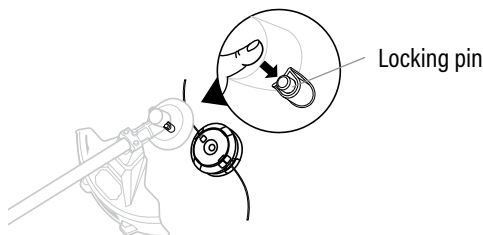

Fig. 9
2. Press the locking pin and turn the cartridge counterclockwise to remove it. (Fig. 9)
3. Press the locking pin and turn the trimmer head clockwise to assemble it. (Fig. 9)